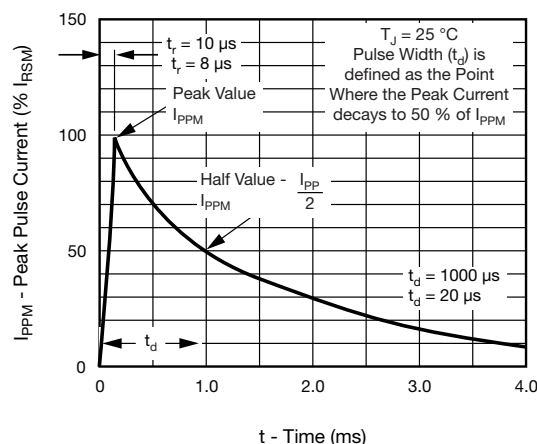
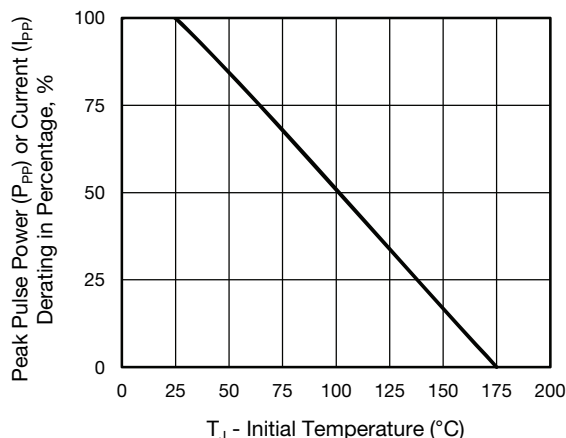

Fig. 3 - Pulse Waveform
Fig. 2 - Pulse Power or Current vs. Initial Junction Temperature
(1) Non-repetitive current pulse, per fig. 3 and derated above  $T_A = 25^\circ\text{C}$  per fig. 2.